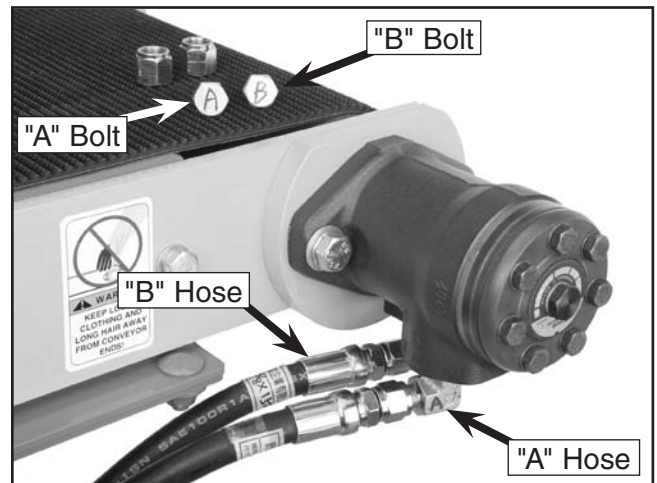

Figure 11. Connecting the hydraulics.
- Thread the "B" hose into the elbow fitting as shown in **Figure 11** and tighten.